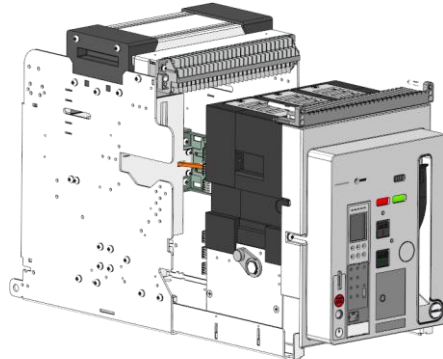

FIG 1
(1) ACB본체를 인출하십시오. [FIG 1]
(1) Draw out the main body of ACB from cradle. [FIG 1]